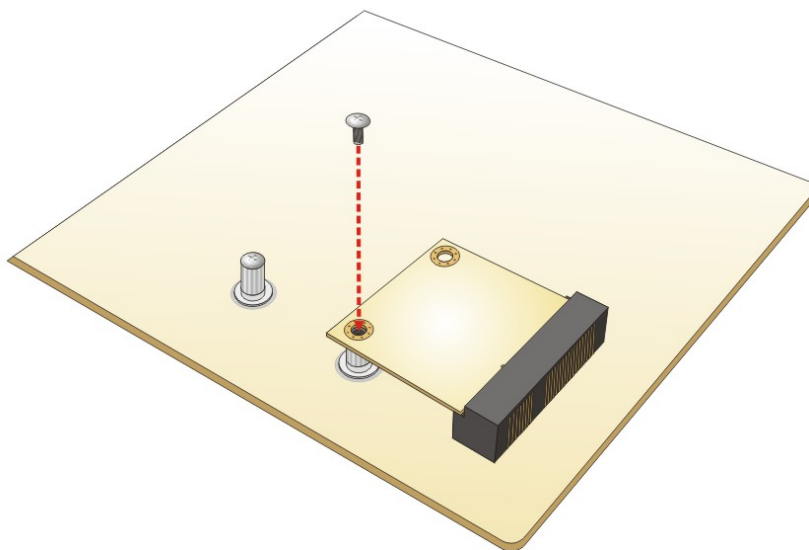

Figure 4-7: Securing the Half-size PCIe Mini Card
Step 4: Secure the half-size PCIe Mini card. Secure the half-size PCIe Mini card with the supplied retention screw (Figure 4-7).